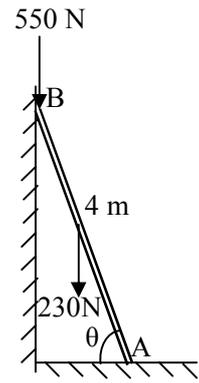

Fig. 2 Que 2(c) OR
**(c)** A uniform ladder  $AB$  weighing 230 N and 4m long, is supported by vertical wall at top end  $B$  and by horizontal floor at bottom end  $A$  as shown in **Fig. 2**. A man weighing 550 N stood at the top of the ladder. Determine minimum angle  $\theta$  of ladder  $AB$  with floor for the stability of ladder. Take coefficient of friction between ladder and wall as  $1/3$  and between ladder and floor as  $1/4$ . **07**